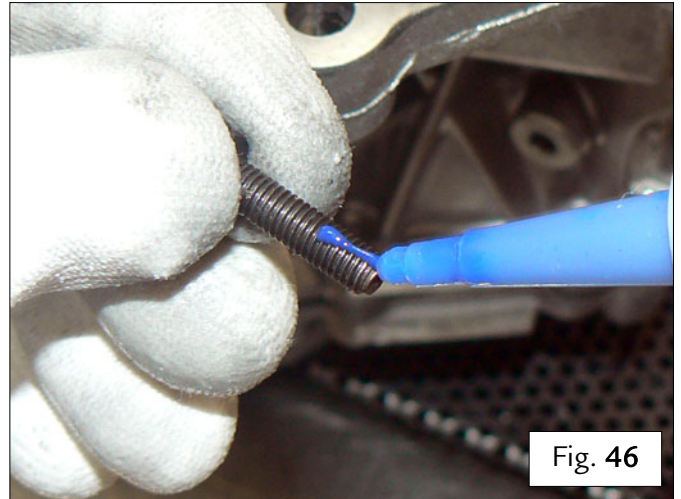

Fig. 46
- If not already applied to the new screws, apply **Loctite 243** on the threads of the screws fastening the SAP – Fig. 46.